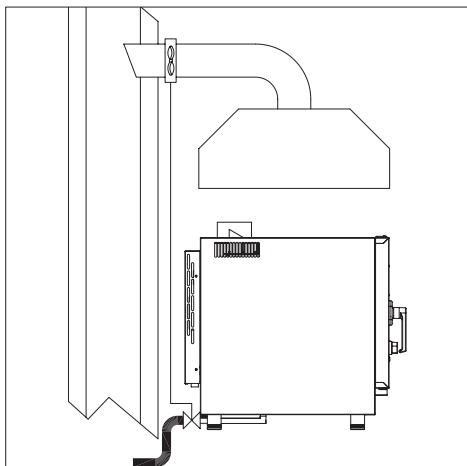

fig. 13
- d) following interruption of gas supply the gas will be switched on manually (fig. 13).